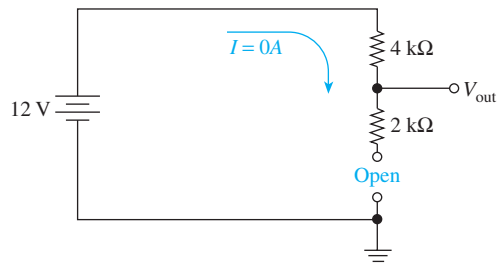

Figure F-8 An open circuit below the measurement point allows the entire supply voltage to reach the output.
Calculate V_{out} in Figure F-8.
- F-10.** If the $4\text{-k}\Omega$ resistor in Figure F-8 is doubled, V_{out} will _____ (increase/decrease/remain the same)?